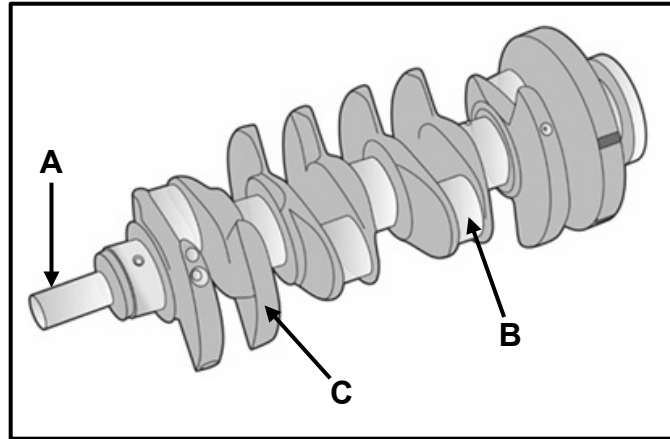

FIGURE 6.1
6.1 FIGURE 6.1 below shows the crankshaft of a four-cylinder engine. Answer the questions that follow.